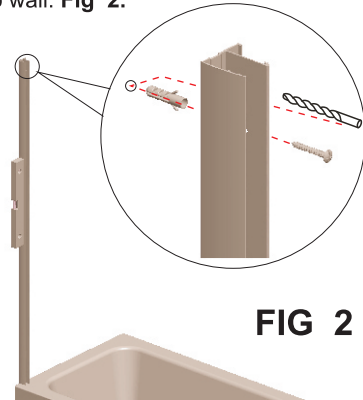

FIG 2
2. Plumb the wall profiles using the vertical element of the spirit level. Mark 4 holes, drill with 6mm masonry bit and fit wall plugs. Using the 4 screws fix wall profile to wall. **Fig 2.**